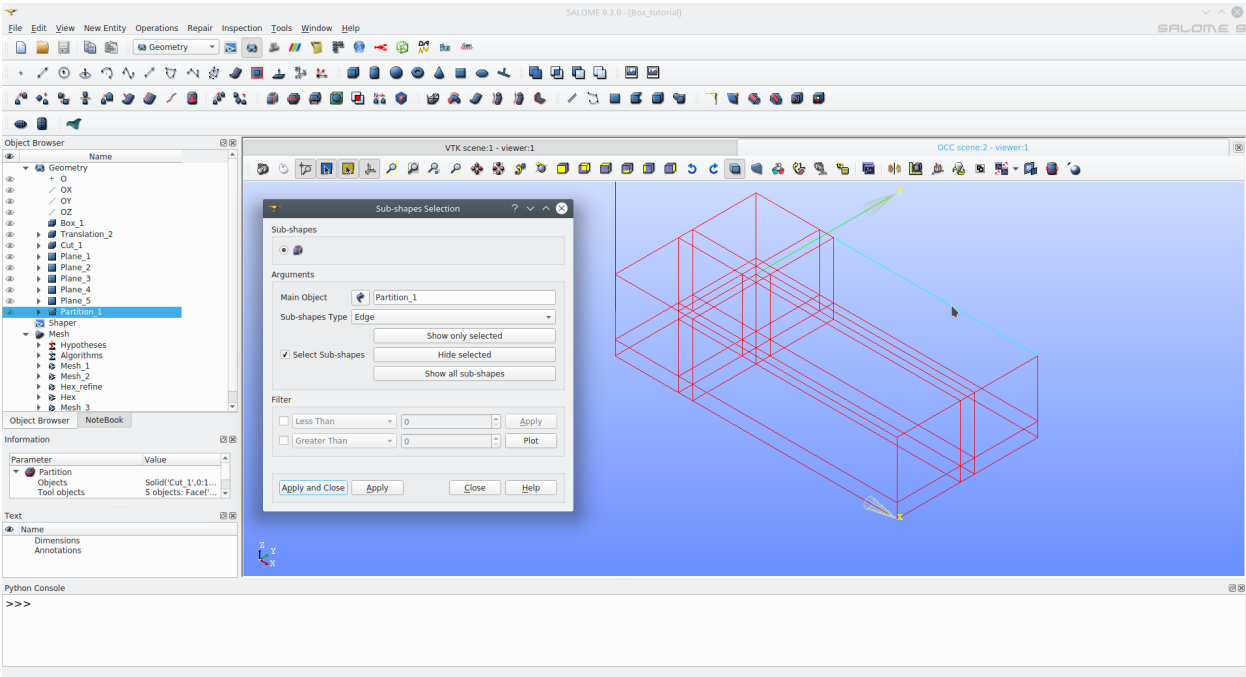

Figure 11: Basic hex mesh with 10 divisions along each edge
- Select Partition_1 in the pipeline > New Entity > Explode > Sub-shape Type = Edge, Check box for Select Sub-Shapes, select the longest edge available (see figure 11 > Apply and close
- Other edges (as seen in figure 11), may as well be selected for further refinement of mesh